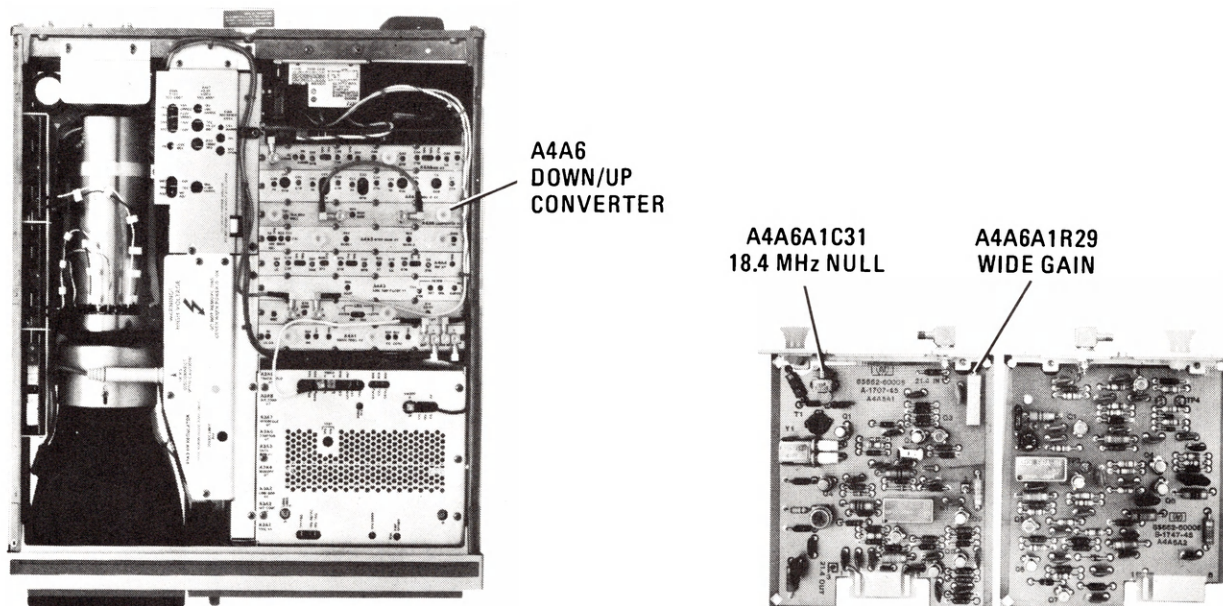

Figure 5-37. Location of Down/Up Converter Adjustments
6. Adjust A4A6A1R29 WIDE GAIN to align markers on CRT display. MKR Δ level should indicate 1.00 X. Refer to Figure 5-37 for location of adjustment.
11. Adjust A4A6A1C31 18.4 MHz NULL to null the 18.4 MHz Local Oscillator signal and all displayed harmonics. Refer to Figure 5-37 for location of adjustment.